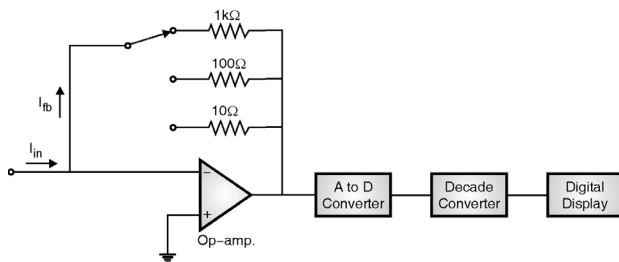

Fig. 1.13.2 : I to V converter
- ii. A commercial digital multimeter consists of several A to D converters, decade counters and display. It is basically dc voltmeter. In order to measure unknown current; current to voltage converter is used. This circuit is as shown in Fig. 1.13.2.